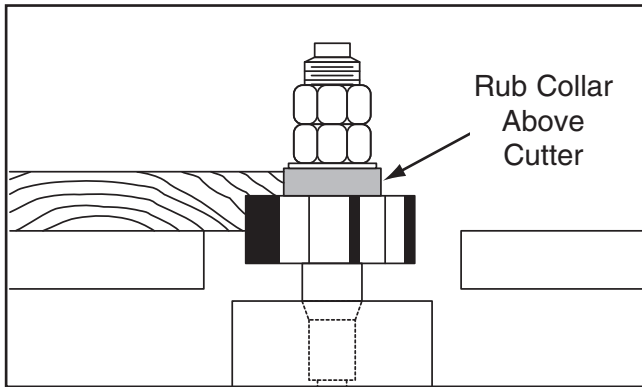

Figure 32. Cutting with rub collar above cutter.
2. **Rub collar above cutter:** Cut *cannot* be seen during operation when rub collar is above cutter (see **Figure 32**). However, this offers some advantages—stock is not affected by slight variations in thickness and accidental lifting will not damage workpiece. Simply correct any change in height by repeating operation.